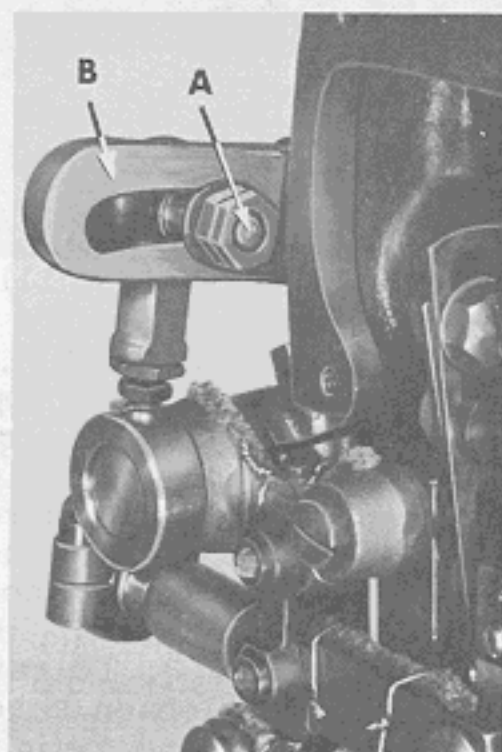

Fig. 7
The bell crank lever ball joint (A, Fig. 7) should be set all the way to the right in the slot of the upper feed bell crank lever (B). This connecting rod can also be lengthened or shortened to suit sewing conditions if required.